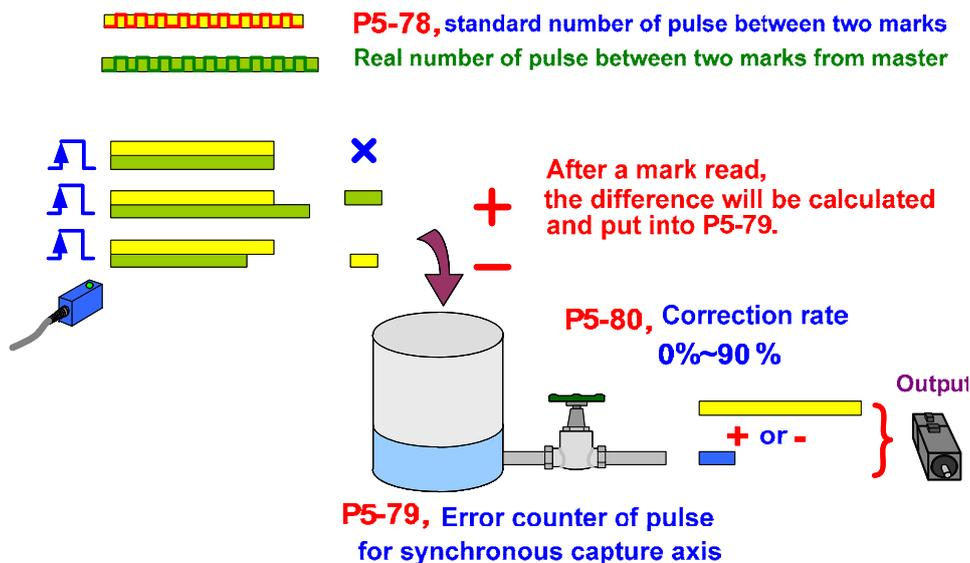

Figure 3.8.6 Operational Theorem of Synchronous Capture Axis
- The pulse number between two marks must be set in P5-78. The setting of P5-78 must be correct, or the system has no basis for comparison. Generally,  $P5-78 = P5-84$ . If  $P5-83 = 1$ , then the distance between two marks is the distance the cam curve travels for a cycle. See figure 3.8.6. In every cycle, the actual pulse number output by master axis between two